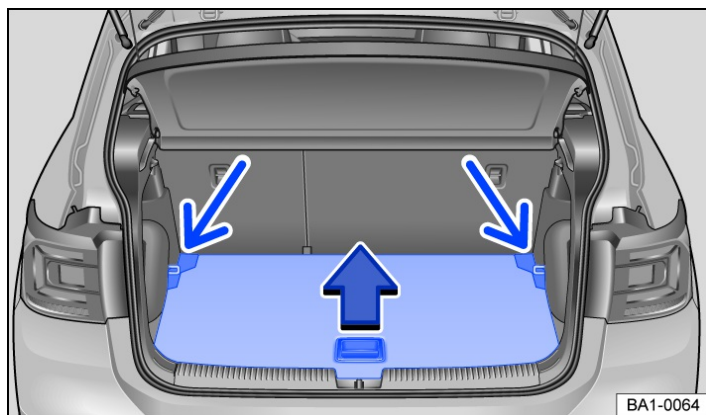

Fig. 1 In the luggage compartment: opening the variable luggage compartment floor.
- Grip the recessed handle in the variable luggage compartment floor → Fig. 1 and lift it upwards.